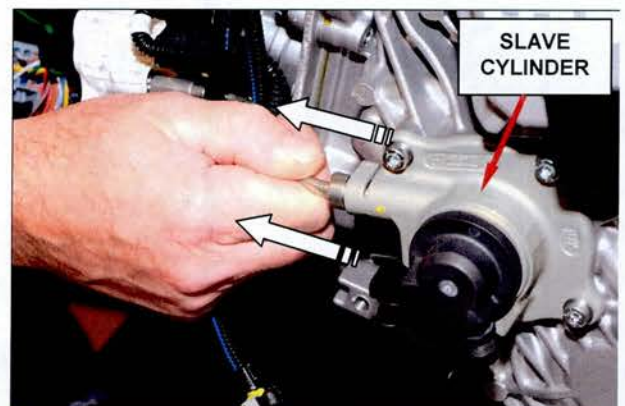

Figure 17 – Hydraulic Tube
46. Carefully disconnect the hydraulic tube from the slave cylinder (Figure 17).